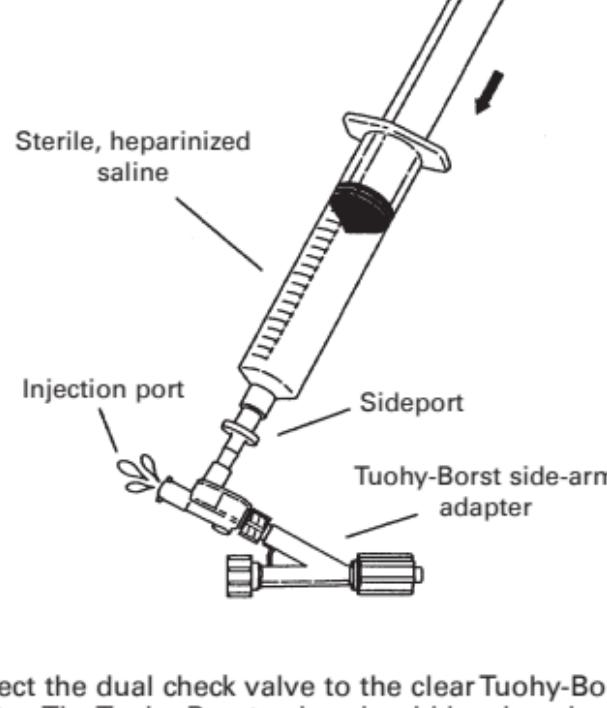

Fig. 2
4. Connect the dual check valve to the clear Tuohy-Borst adapter. The Tuohy-Borst valve should be closed completely. Connect a 20 ml heparinized saline-filled syringe to the sideport of the dual check valve adapter and slowly purge air from the injection port. (Fig. 2)